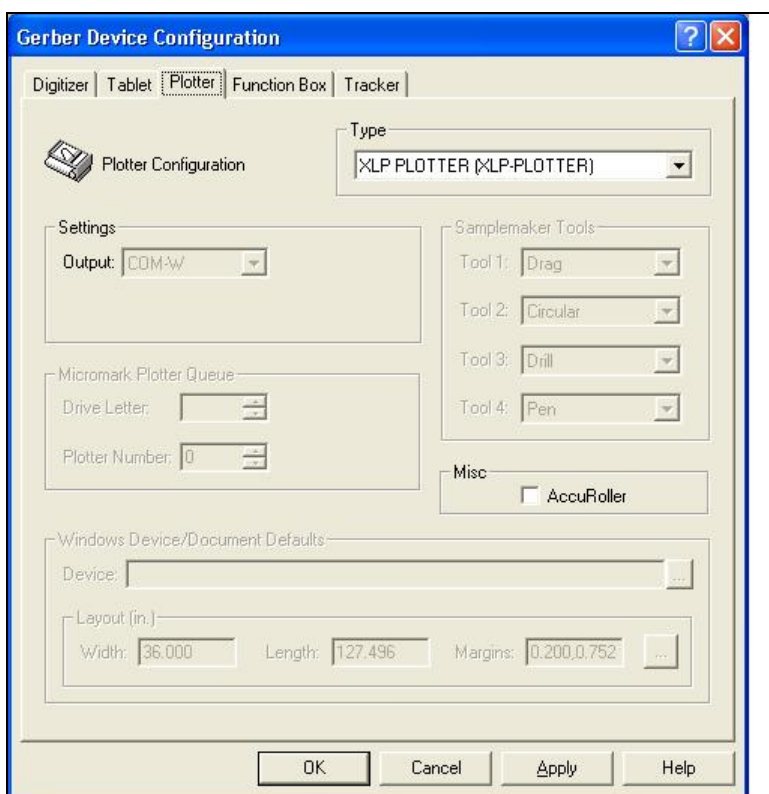

Figure 25. Gerber Device Configuration
3. The **Gerber Device Configuration** window will appear (Figure 25).